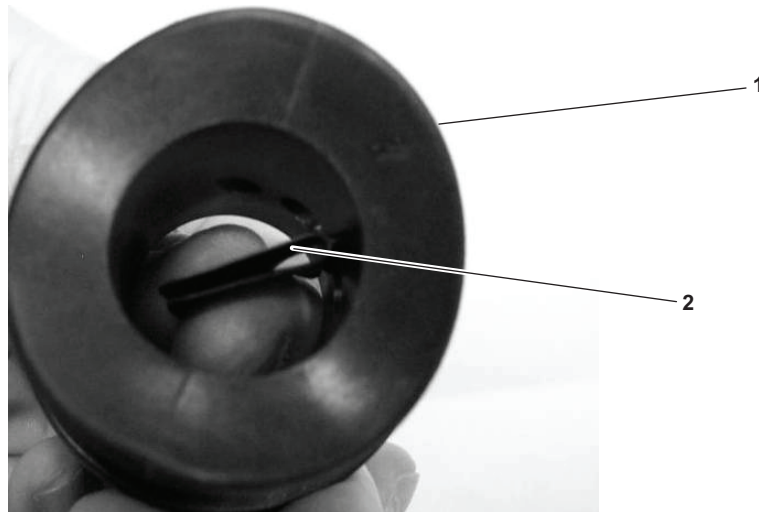

Figure 6-17. AV-3000® Inhalation Check Valve Removal
- (1) Remove the voicemitters and the voicemitter ducts IAW paragraph 6.6.4 step b.
- (2) From inside the voicemitter duct (figure 6-17, item 1), grasp the rectangular portion of the inhalation check valve (figure 6-17, item 2) and pull the inhalation check valve free. Perform step b.(2) on the remaining inhalation check valve.
- (1) Inspect the inhalation check valves (figure 6-17, item 2) for cuts, nicks, tears, and other damage. If damage is noted, replace as required.
- (2) Inspect the inhalation check valves (figure 6-17, item 2) for cleanliness. If dirt or other foreign matter is found, clean IAW PMCS (Chapter 4).
- (7) Perform steps c.(3) through c.(6) for the other inhalation check valve (figure 6-17, item 2).